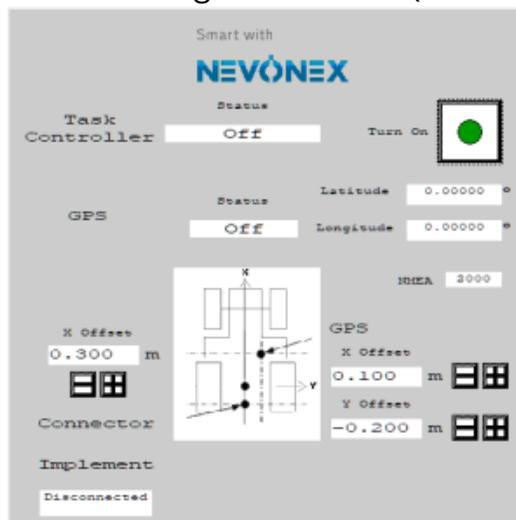

Figure 7: NEVONEX UT on the terminal
- To activate NEVONEX as a task controller, press the green button ("Turn on") in the upper right corner of the NEVONEX UT (see Figure 7: NEVONEX UT on the terminal). The task controller status changes to "ON" and the button turns red ("Turn off").
- Make sure that TC number one (1) is selected in the primary UT for NEVONEX.